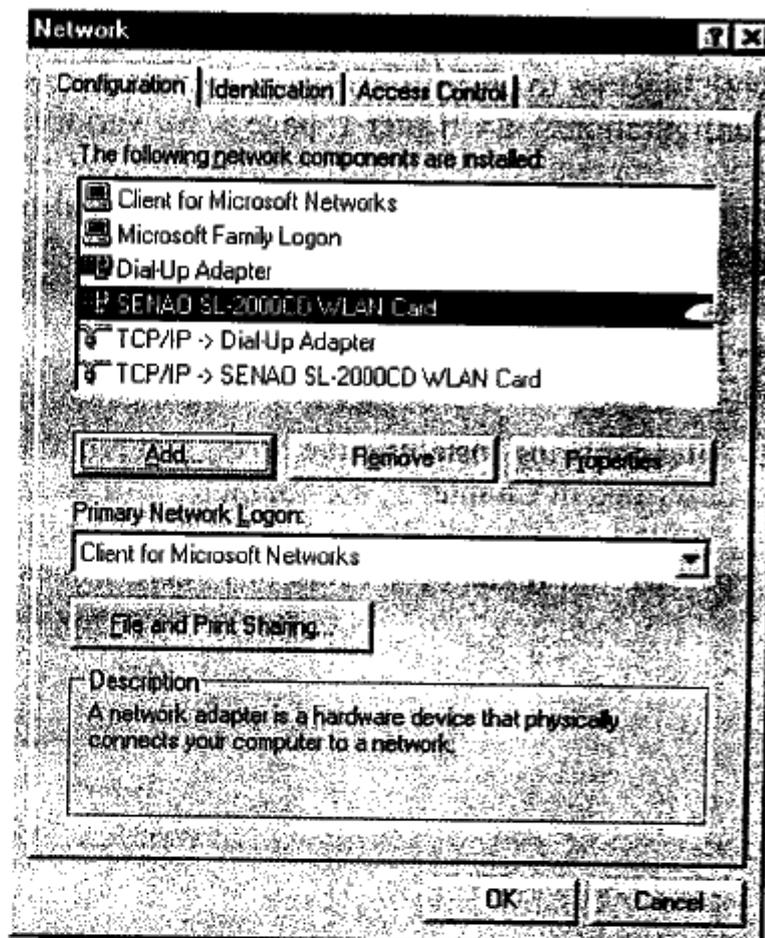

Figure 4-3
3. In Control Panel window, double-click the "Network" icon to open the "Network" dialog box as shown in Figure 4-3.